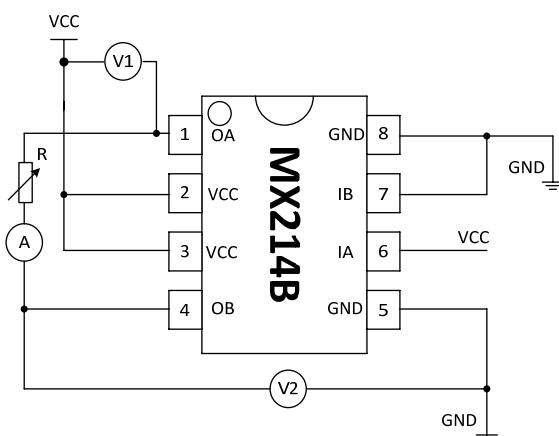

Fig. 3 (Output saturation voltage V_{O(sat)}=V1+V2)
NOTES: (1) The output saturation voltage is the sum of output high- and low-side saturation voltages, i.e. the sum of the measured values in voltmeters V1 and V2 in Fig.3.
(2) By adjusting adjustable resistor R in Fig. 3, the stated current can be obtained from reading of ammeter.